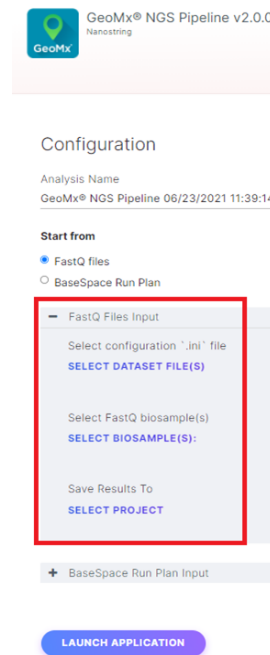

Figure 16: Choose file inputs
4. Choose the **Start From: FASTQ files** option (see Figure 16) . Under **FASTQ Files Input**, choose the configuration (.ini) file, FASTQ files, and an output project.